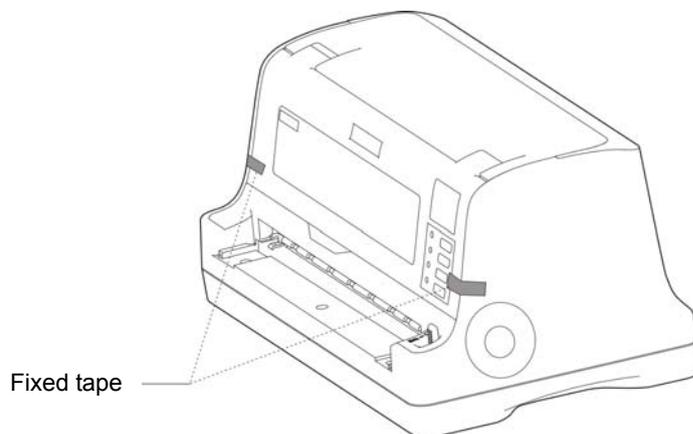

Figure 2-2 Tear off the fixed tape
1. Open the packing box, take out the printer, and tear off the fixed tape on the both sides of the printer. (As shown in Figure 2-2)